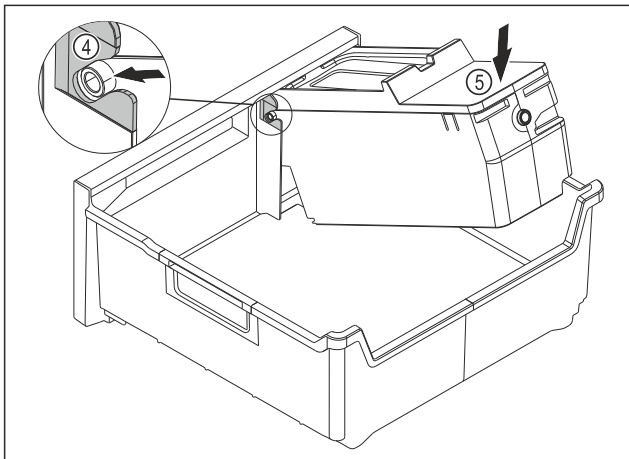

Fig. 83
- ▶ Installing the EasyTwist-Ice body: Push the axes for the EasyTwist-Ice body into the guides Fig. 83 (4).
- ▶ Press the EasyTwist-Ice body Fig. 83 (5) down at the back.